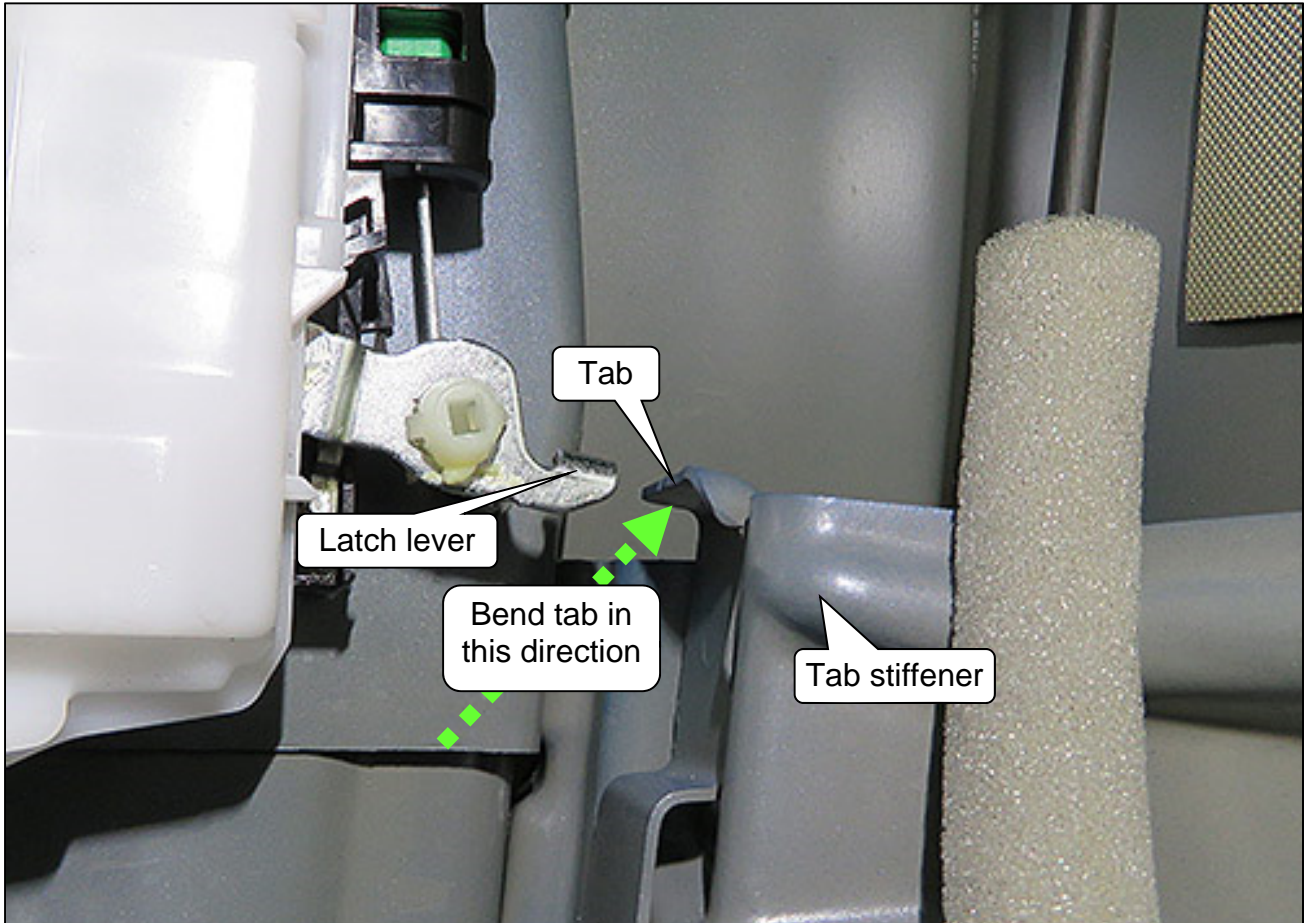

Figure 11
- Using a small hammer and a long flat ended tool, gently adjust the gap by bending the tab stiffener away from latch lever (see Figure 11).
- After adjusting the gap, confirm that the door lock lever moves freely (see Figure 11).